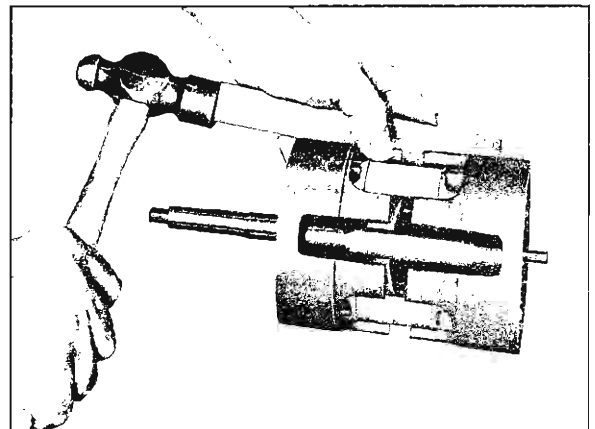

Fig. 32—Separating Cylinder Halves
3. Drive the cylinder halves apart and free from the dowel pins and discharge crossover tube using a fiber block and mallet (fig. 32). Discard the discharge crossover tube.